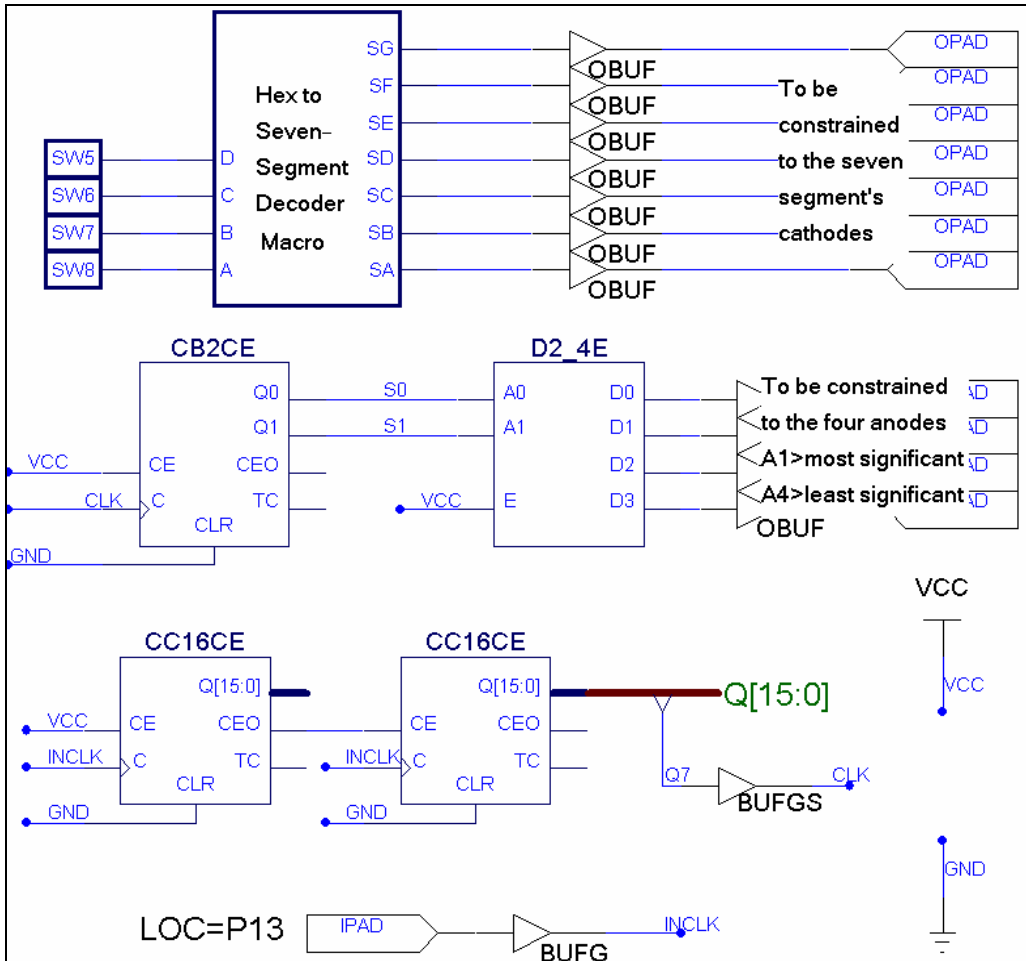

Figure 7.4: Time Multiplexing the Same Digit on Four 7-Sement Displays
8. Connect the four anodes to a two-to-four decoder (D2-4E) as shown in Figure 7.4.
9. Connect the two inputs of the decoder to a two-bit counter (CB2CE) as shown in Figure 7.4.